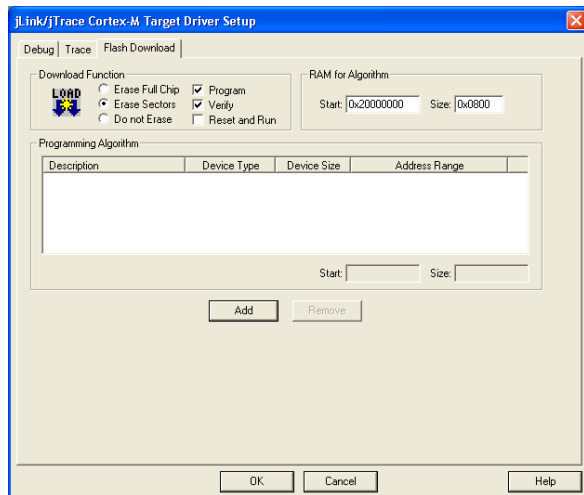

Figure 25. J-Link/J-Trace Cortex Setup
7. Select **Settings** to display the dialog box shown in Figure 25.